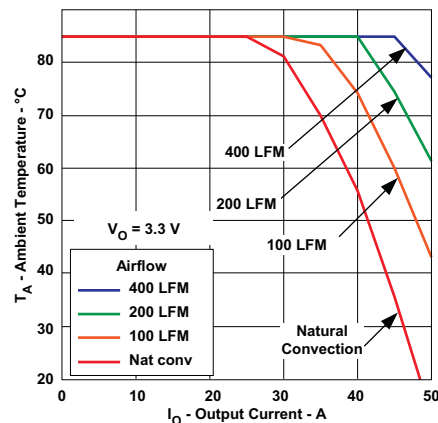
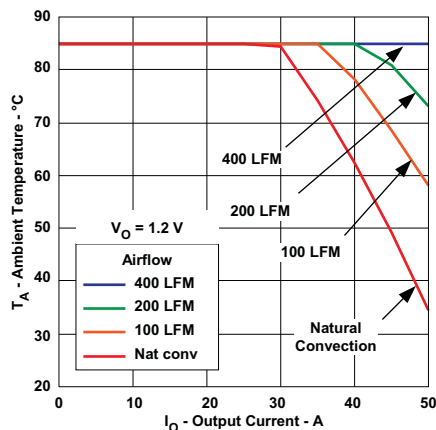

Figure 9. Ambient Temperature versus Output Current
Figure 10. Ambient Temperature versus Output Current
- (14) The temperature derating curves represent the conditions at which internal components are at or below the manufacturer's maximum operating temperatures. Derating limits apply to modules soldered directly to a 100-mm x 100-mm double-sided PCB with 2-oz. copper and the direction of airflow from pin 10 to pin 22. For surface mount packages (AS and AZ suffix), multiple vias must be utilized. Refer to the mechanical specification for more information. Applies to Figure 9 and Figure 10.